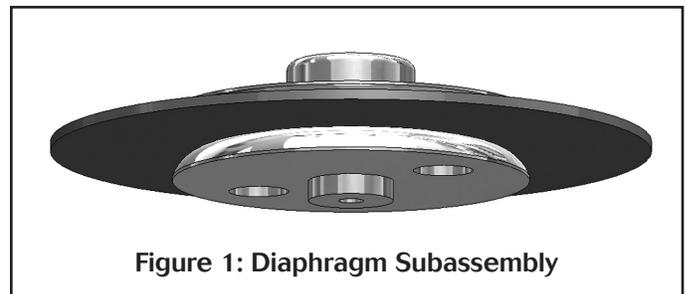

Figure 1: Diaphragm Subassembly
1. Remove adjusting screw assembly (11) completely out of the spring housing (10).
2. If valve is removed from the line, clamp the valve in a vise using the body (1).
3. Remove spring housing (10).
4. Remove range spring (12) and spring seat (9).
5. Remove diaphragm assembly parts (2), (3), and (4). See Figure 1.
7. Remove seat holder (7), seat (8) and plug (6) from body (1).
8. Place new plug (6) into body chamber. Make sure the bottom stop rod (bigger end) of the plug (6) goes down inside the return spring (5).
9. Place the new seat (8) into the seat holder (7) and carefully install into body cavity (1) taking care not to bend the narrow rod on top of the plug (6) when it passes through the seat holder (7). Tighten 30° past contact.
10. Refer to Figure 1. Unscrew the lower diaphragm plate (4) from the upper diaphragm plate (2). Discard the old diaphragm (3) and reassemble with new one. Use LowFlow replacement diaphragm only. Place diaphragm assembly parts (2), (3), and (4) back into body cavity (1), making sure the small counterbore on the bottom of lower diaphragm plate is properly engaged with the narrow tip of the plug (6) which protrudes through the seat holder (7).
11. Replace range spring (12), spring seat (9), centering